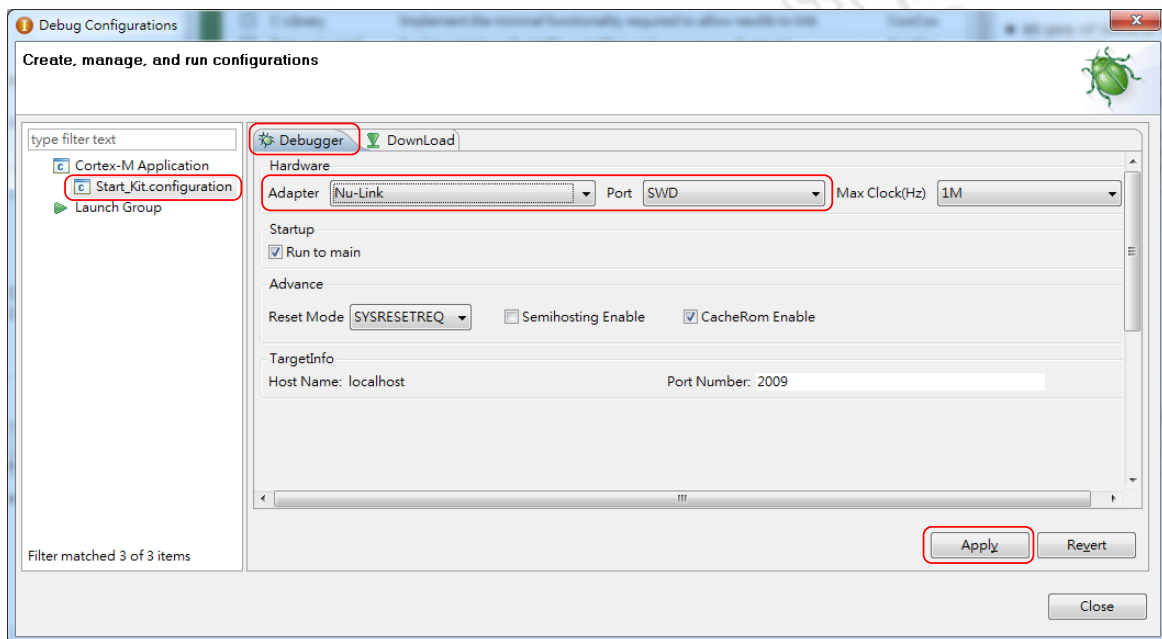

Figure 4-20 Specify the Debugger Options for CoCox CoIDE
Step 3: In the **Debugger** tab of the *Debug Configurations* form (through invoking **Debug** → **Debug Configurations**), select “**Nu-Link**” as the Adapter, select “**SWD**” as the Port, and click **Apply** to save the settings, as shown in Figure 4-20.